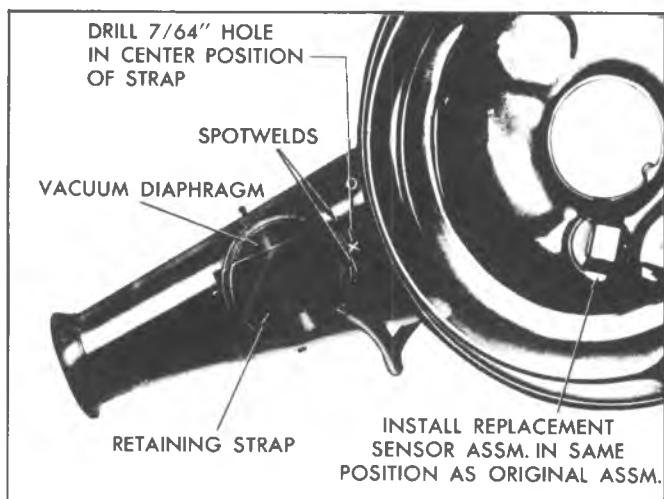

Fig. 14A--Vacuum Diaphragm Replacement
1. Drill 7/64" hole in snorkel tube at center of vacuum motor retaining strap (fig. 14A).